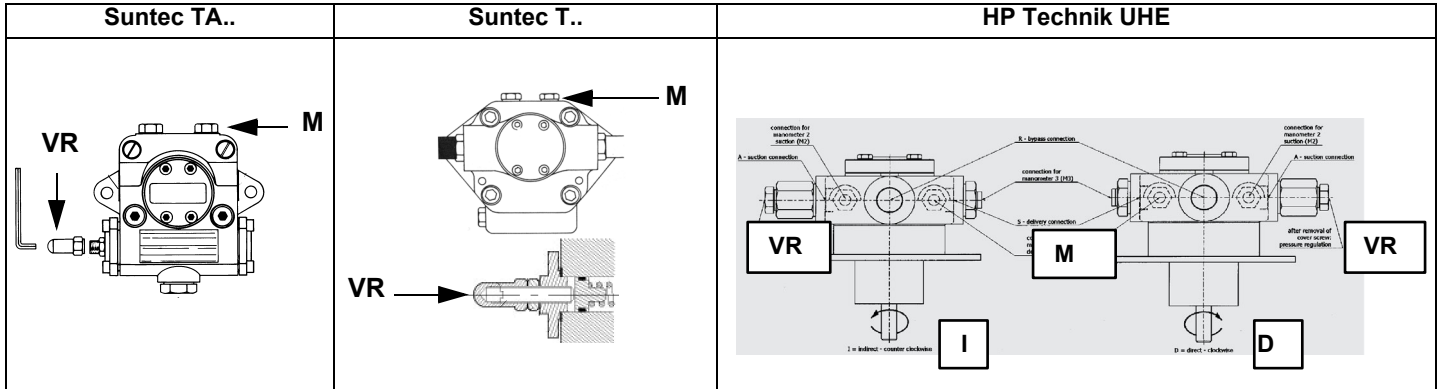
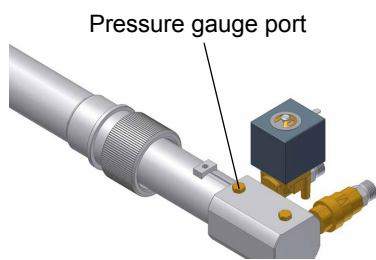

Fig. 11
Fig. 12
3 bleed the air from the **M** pressure gauge port (Fig. 11) by loosening the cap without removing it, then release the contactor.
9 the nozzle supply pressure is already factory-set and must not be changed. Only if necessary, adjust the supply pressure as follows (see related paragraph); insert a pressure gauge into the port shown on Fig. 12 and act on the pump adjusting screw **VR** (see Fig. 11 and page 18) as to get the nozzle pressure at 20 bar or 25bar (according to the nozzle model provided: Bergonzo or Fluidics nozzles - see page 28-33).
**ATTENTION:** To set the outlet pressure of the VD-R regulator, act on the adjustment ring nut (Fig. 10). The position of the indicator in the dial indicates the value of the outlet pressure calculated as a percentage of the full scale of the PS sensor (Fig. 11)